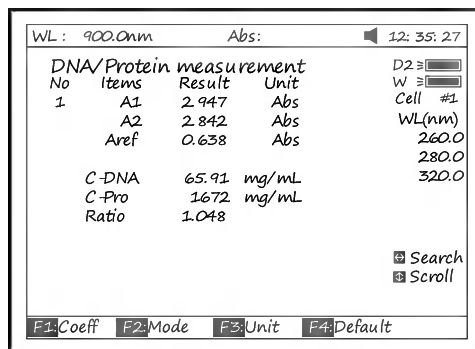

Fig 65
5. Pull the sample cuvette into Main Light Path, press **[START]** to test the sample. The test result will be displayed on the screen (Fig 65).